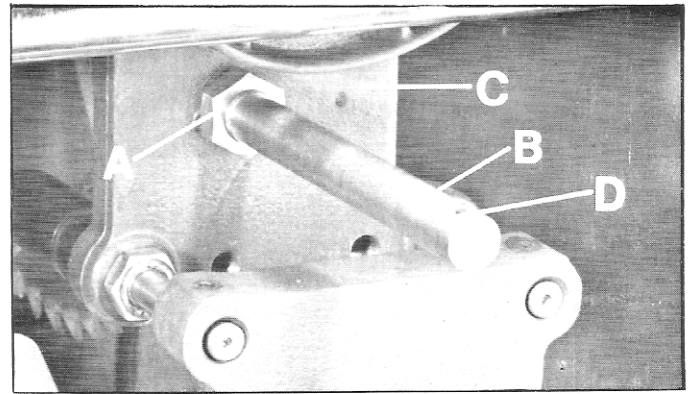

Fig. 20
3. Thread nut (A) Fig. 20, onto threaded end of rod (B) and thread rod (B) into the hole provided in the trunnion bracket (C) as shown. If necessary a rod or pin can be placed into hole (D) to assist in providing leverage when threading the rod (B) into the trunnion bracket. Then tighten nut (A) against trunnion bracket (C), as shown.